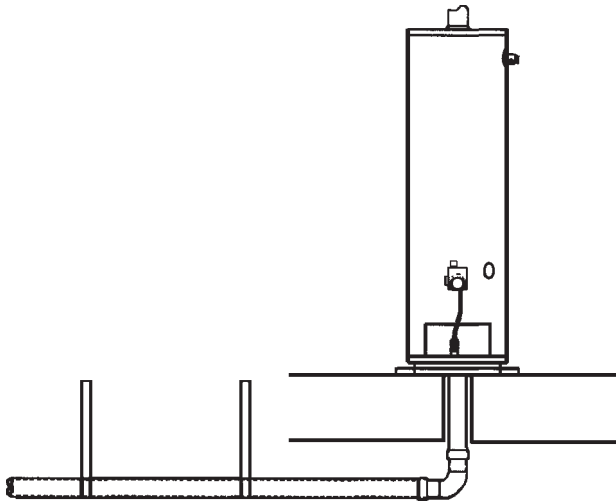

FIGURE 21.
- Vertical and horizontal runs must be securely supported at 3 1/2 Foot intervals, see Figure 21.